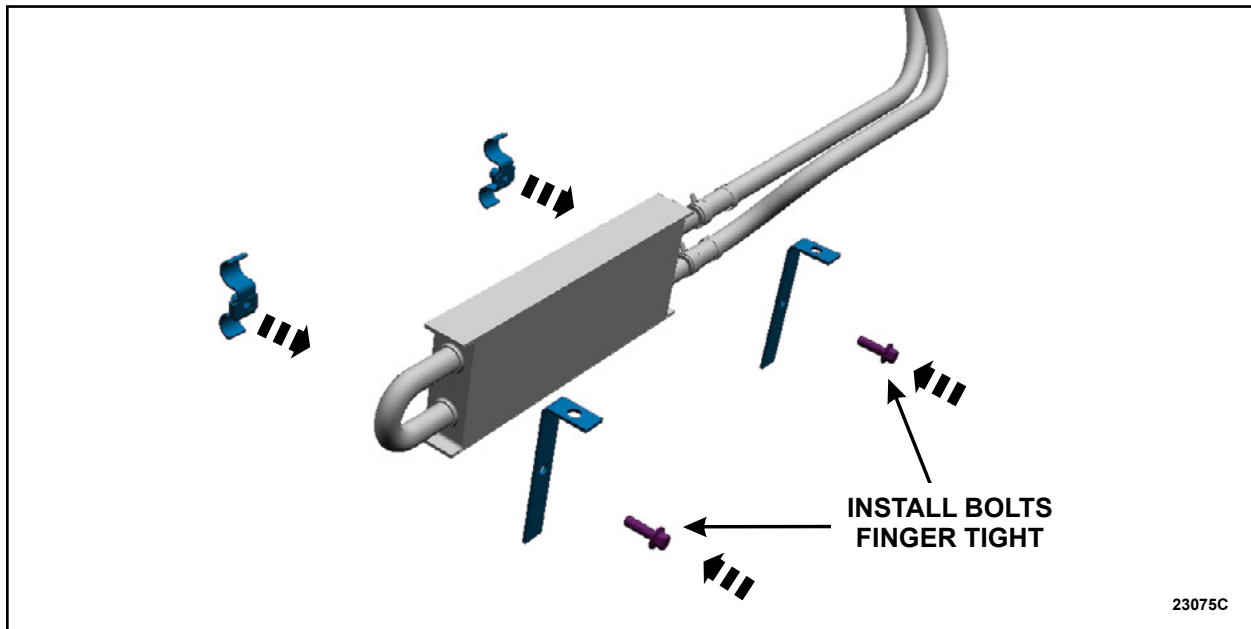

FIGURE 4
- Install the *new* brackets and the original clamps and bolts (finger tight at this time) onto both sides of the power steering cooler. See Figure 4.